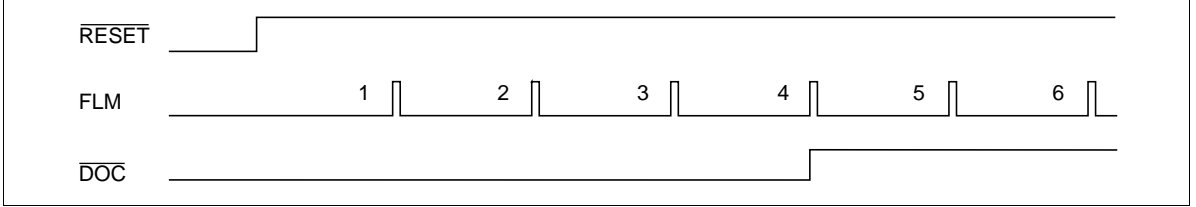

Figure 8 Automatic Display-Off Control Function
3. Auto Display-Off Control: This functions prevents incorrect display after reset release. The display is turned off four frames following after reset release. In addition, the display off control signal shown in Figure 8 is output by pin $\overline{\text{DOC}}$. This pin is connected to pin $\overline{\text{DISPOFF}}$ of the HD66520.